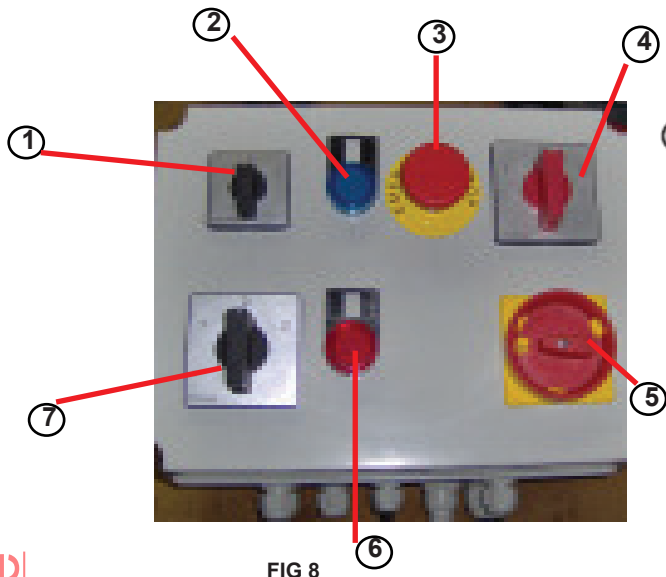

FIG 8
11.2 START-UP OF THREE-PHASE VERSION 1106091 (see fig.8)